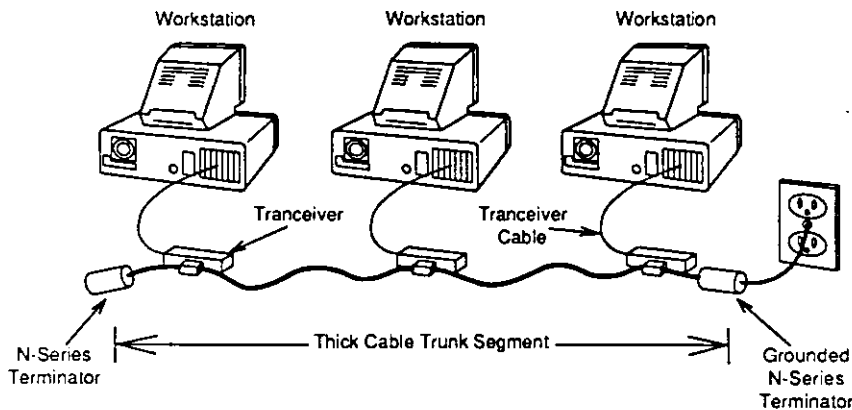

Figure 4.3
6. Attach an N-series terminator to each end of the trunk segment. One terminator should have a grounding wire attached as shown in Figure 4.3 below.